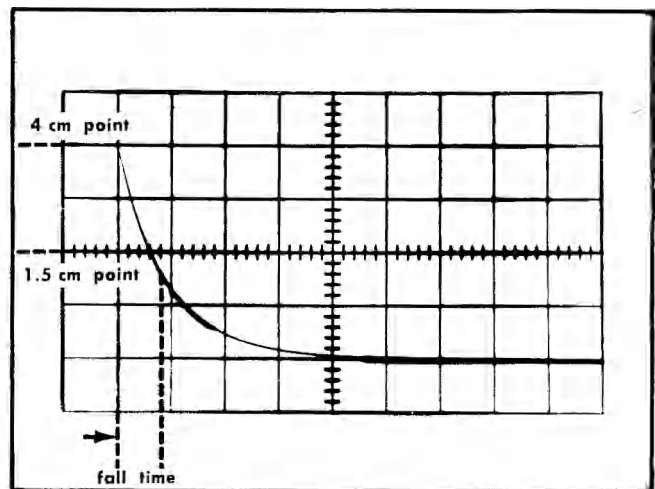

Fig. 6-5. Measuring AC coupled low-frequency response using an RC curve.
- e. Position the display to the center of the graticule area and measure the time it takes the waveform to fall from 4 cm to 1.5 cm. See Fig. 6-5.